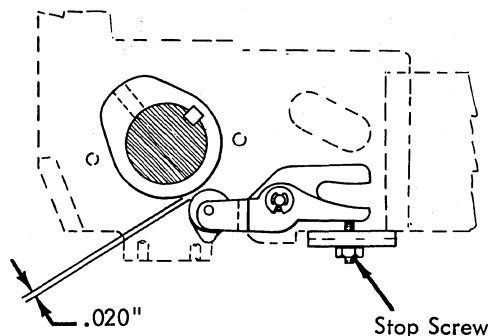

FIGURE 97.2 Print Cam Follower Stop Screw
7. Print Cam Follower Stop Screw - Adjust the cam follower stop screw so that the print cam follower roller clears the print cam by .020" when the machine is at rest (Fig. 97.2). This clearance ensures that the rocker will restore fully on every cycle.